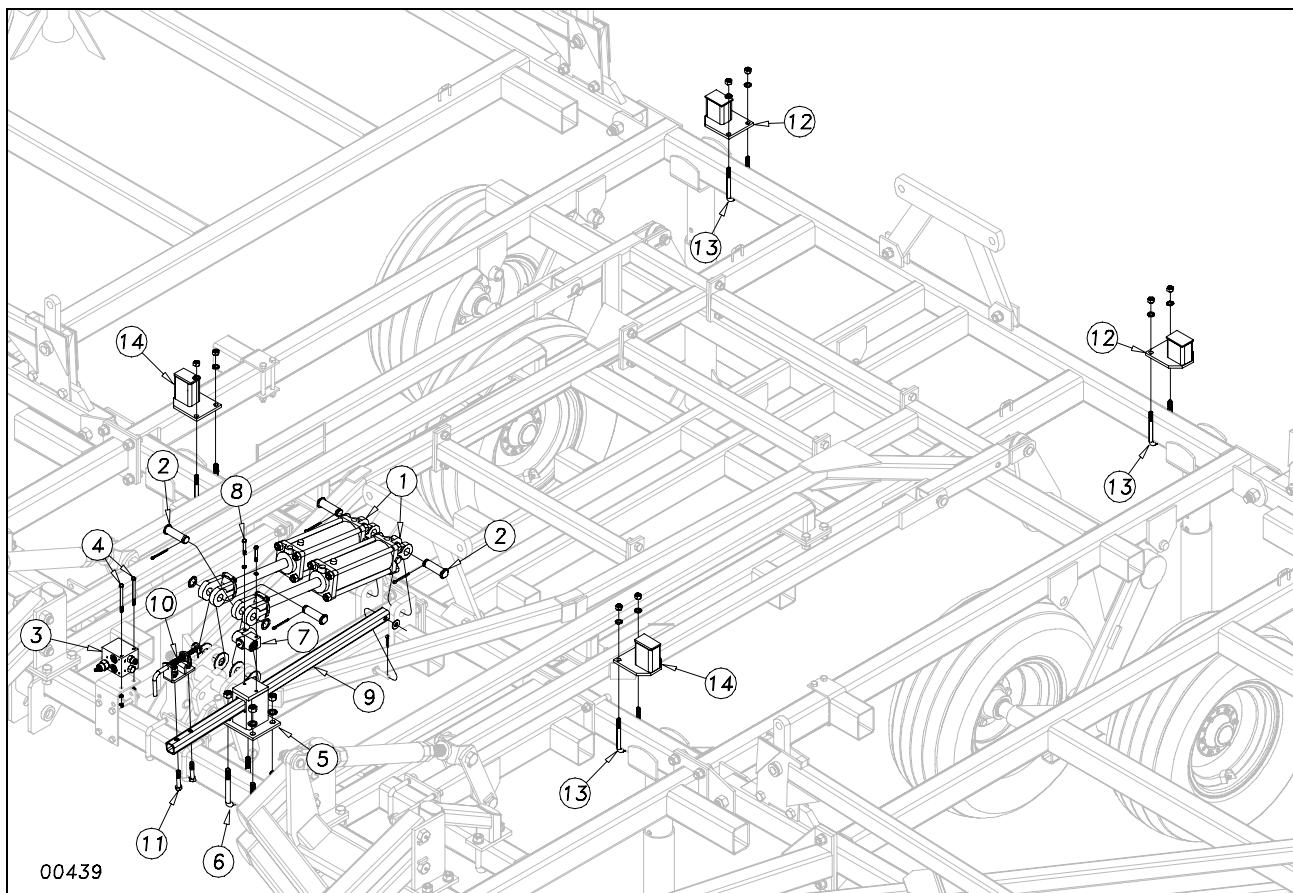

Figure 9
Connect the two 3 1/2 x 8 main lift cylinders (1) to the center frame as in Figure 9. Connect the rod ends to the lugs on the H-bracket. Place a 1" flat washer on each side of the lug on the H-bracket to keep the hardened bushings from coming out.